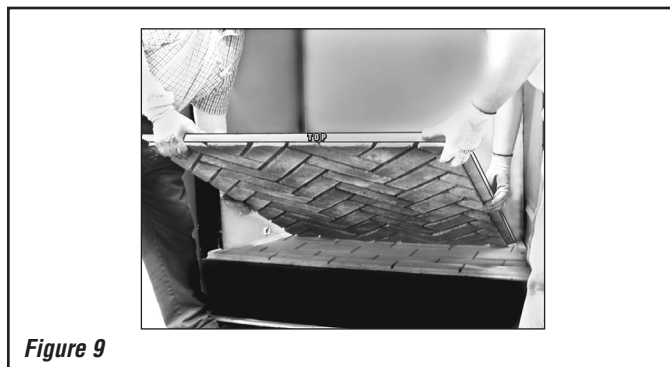

Figure 9
5.2. **Using at least two (2) people**, hold the rear panel by the side edges, with the **top edge up** (**Figure 9, below**).